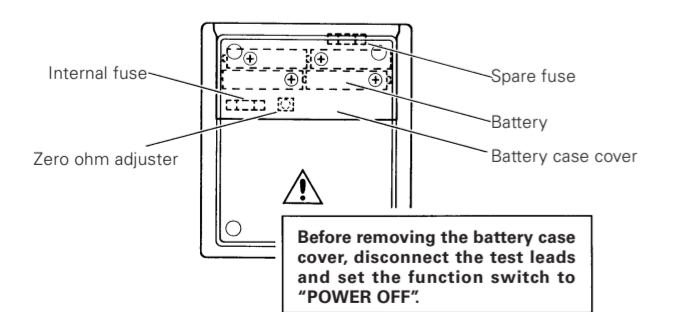

Fig. 8 Specified Locations of Batteries and Fuses
- **Zero Ohm Adjuster** (See Fig. 8 in para. 4-1)
4-2 Internal Battery Replacement (See Fig. 8)